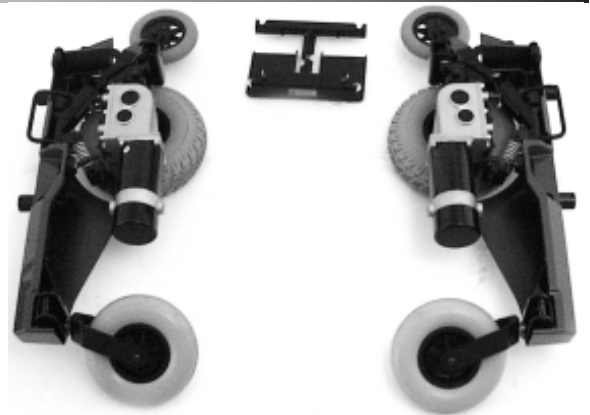

Figure 20. Frame Assemblies
1. Place the three frame assemblies next to each other as shown in figure 20.